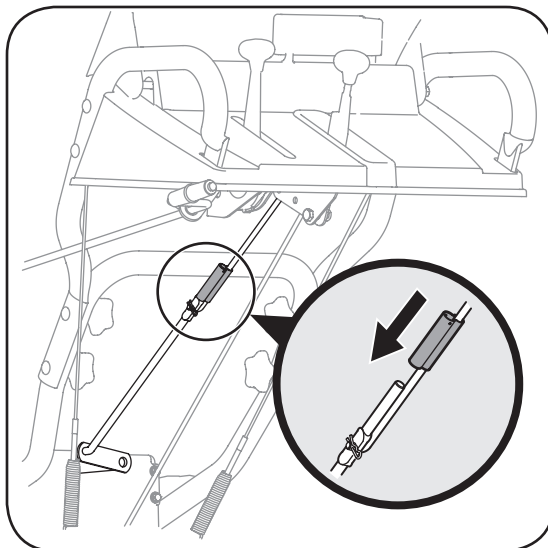

Figure 3-3
3. Align the upper and lower shift rods, then slide the shift rod connector down over the end of the lower shift rod. Tap the connector until the lower rod is completely through the connector. See Figure 3-3.